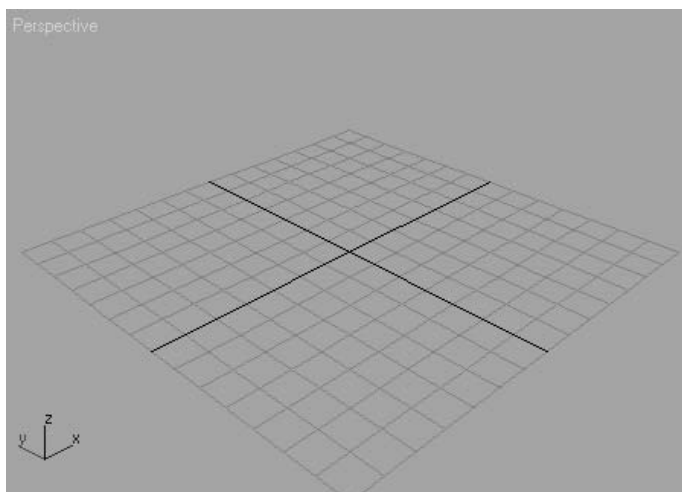

Figure 1.1
*3D space*, the virtual canvas in which you create 3D objects, is a simulation of space that is divided into three axes, *X*, *Y*, and *Z*, representing (in loose terms) left/right, up/down, and in/out. Figure 1.1 shows 3D space in a Max window.